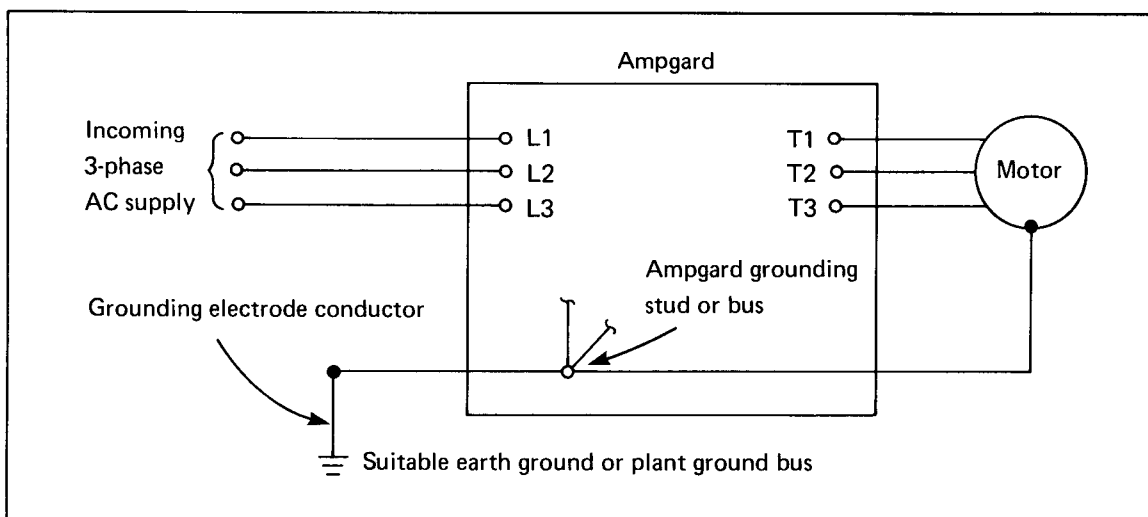

Figure 3.5 – Typical Grounding Plan (simplified)
3.3.3 Grounding – A typical grounding plan for an Ampgard starter is shown in Figure 3.5. Note carefully these